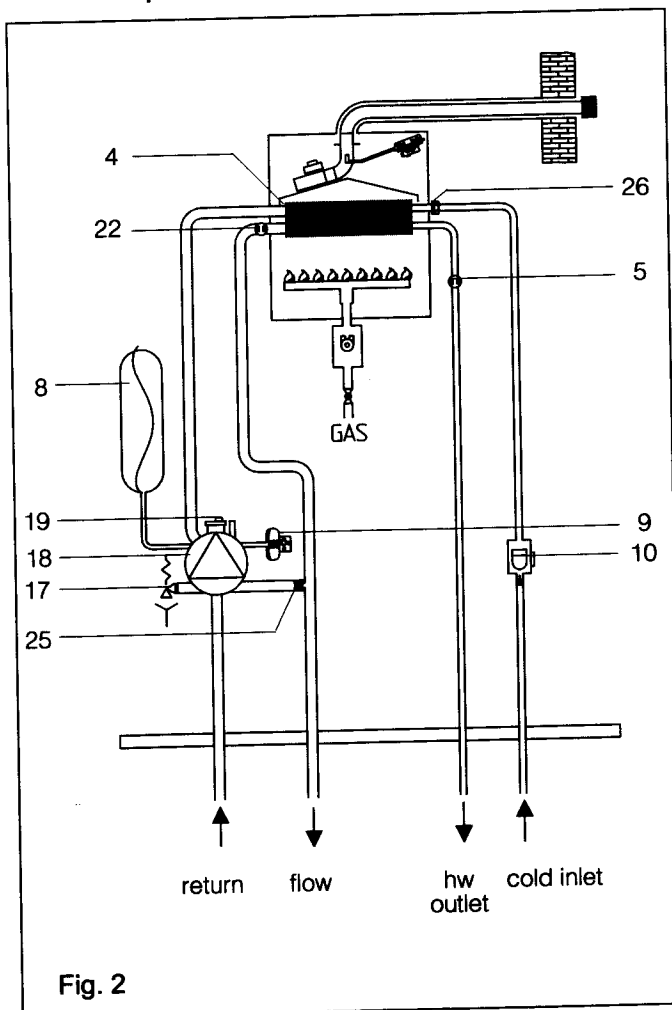

Fig. 2
- 25 Auto 'by pass (fig. 2)
- 26 Water flow restrictor (fig. 2)